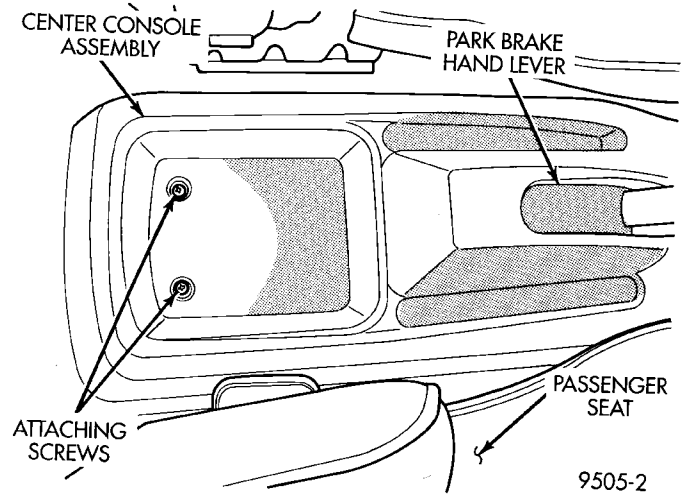
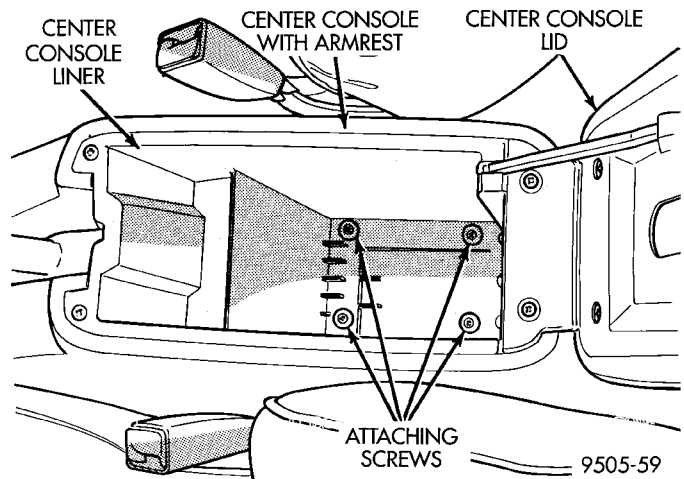

Fig. 134 Center Console W/O Arm Rest Rear Attaching Screws
Fig. 135 Center Console With Arm Rest Rear Attaching Screws
(1) Remove screws attaching rear of center console assembly to floor pan of vehicle (Fig. 134) or (Fig. 135).